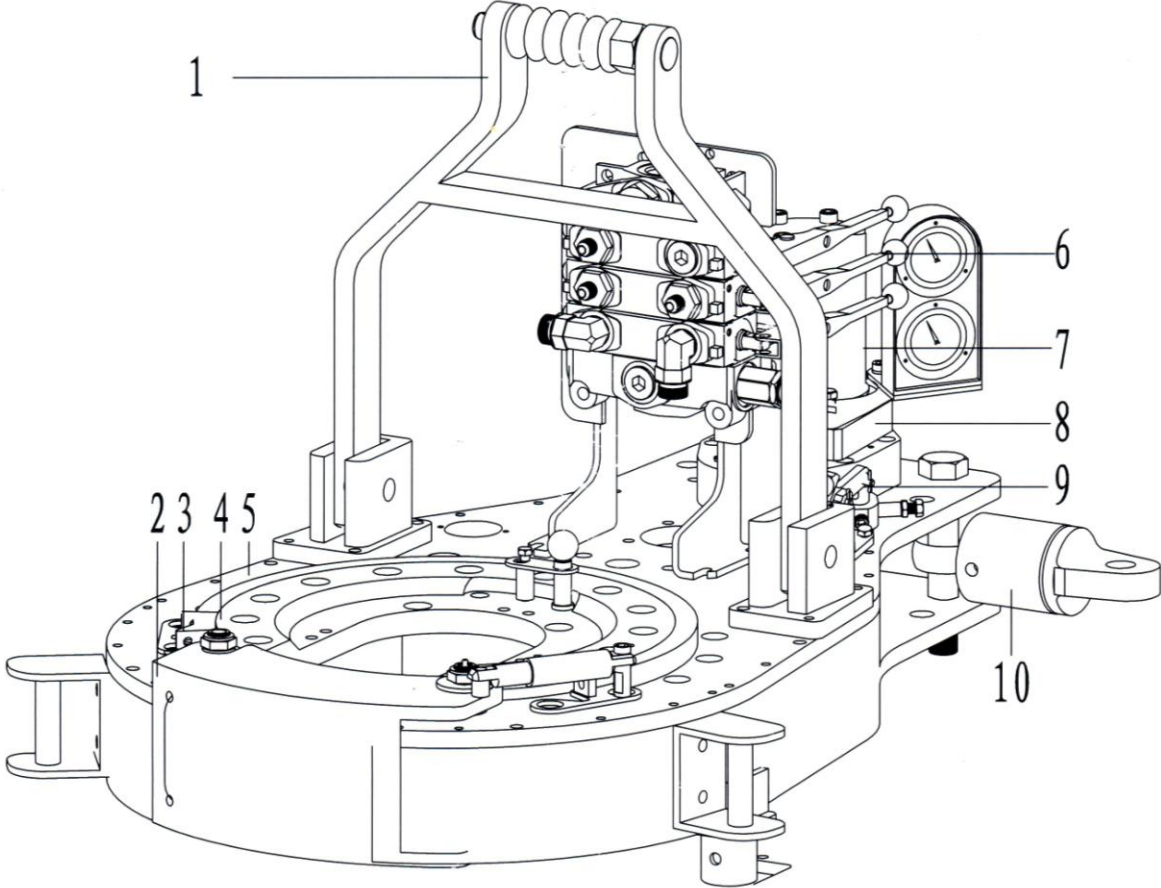
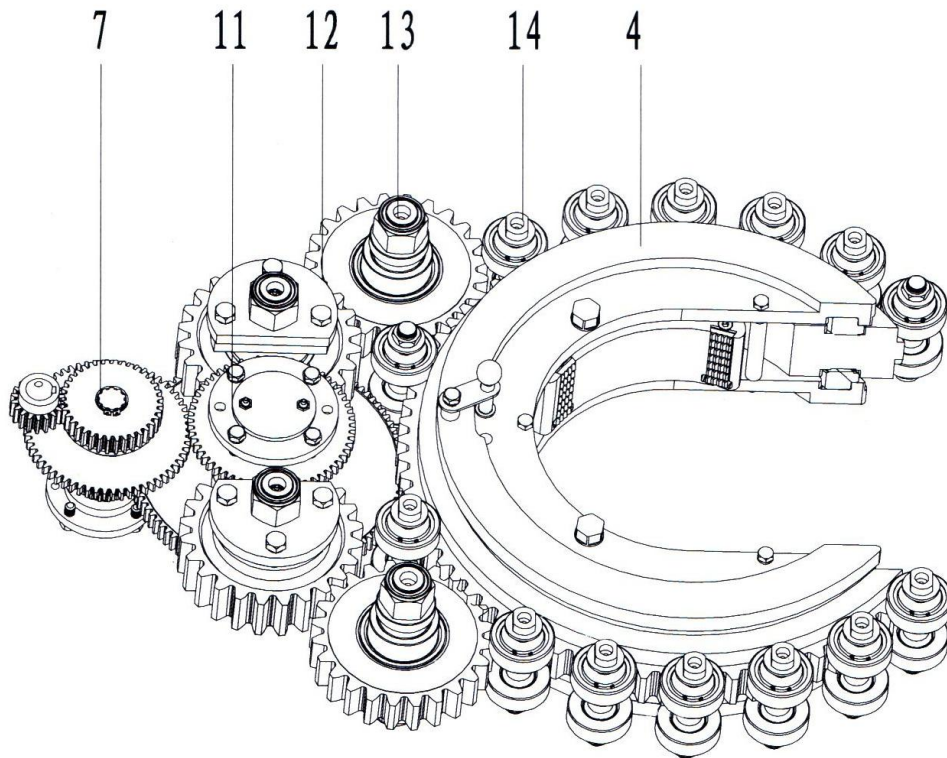

Fig. 2
Fig. 3
7.1 KHT8625Master tong assembly(Fig.2, Fig.3, Table.2)